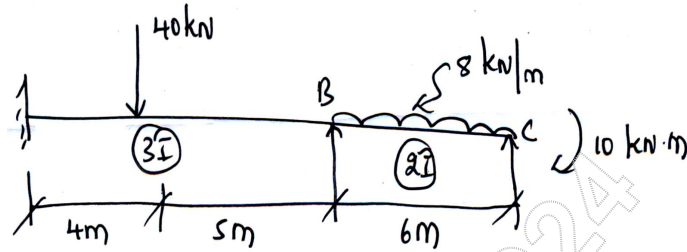

Fig.Q.3
- 3 Analyze the continuous beam shown in Fig.Q.3 by element flexibility matrix method. Draw BMD and elastic curve. (20 Marks)